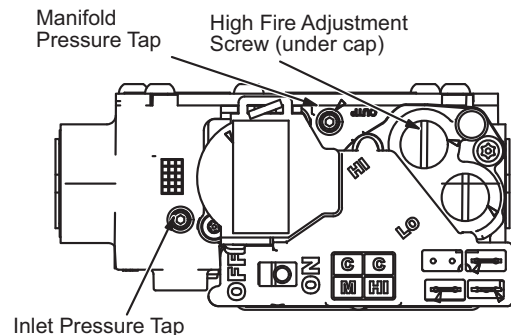
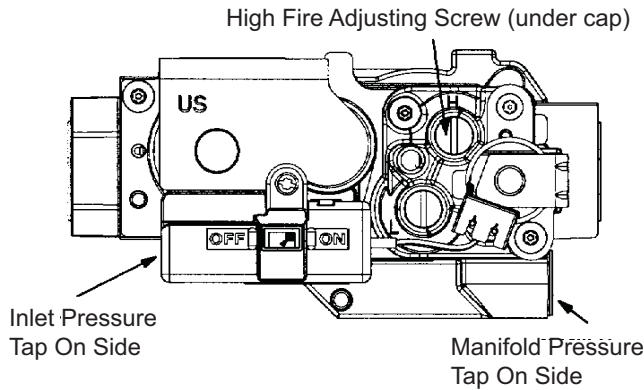

Figure 18. White Rodgers Gas Valve
Figure 19. Honeywell Gas Valve
The valve (**Figure 18**) is internally redundant to assure safety shut-off. If the gas valve must be replaced, the same type valve must be used.
See **Figure 18** and **Figure 19**.
6. Move gas valve switch to **OFF** position. Do not force. See **Figure 18** and **Figure 19**.
7. Wait five (5) minutes to clear out any gas. If you then smell gas, **STOP!** Immediately call your gas supplier from a neighbor's phone. Follow the gas supplier's instructions. If you do not smell gas go to next step.
8. Move gas valve switch to ON position. Do not force. See **Figure 18** and **Figure 19**.
4. Move gas valve switch to OFF position. Do not force. See **Figure 18** and **Figure 19**.
1. Connect test gauge to manifold pressure tap (**Figure 18** and **Figure 19**) on gas valve.
4. If necessary, make adjustments. **Figure 18** and **Figure 19** show the location of high fire adjustment screw.